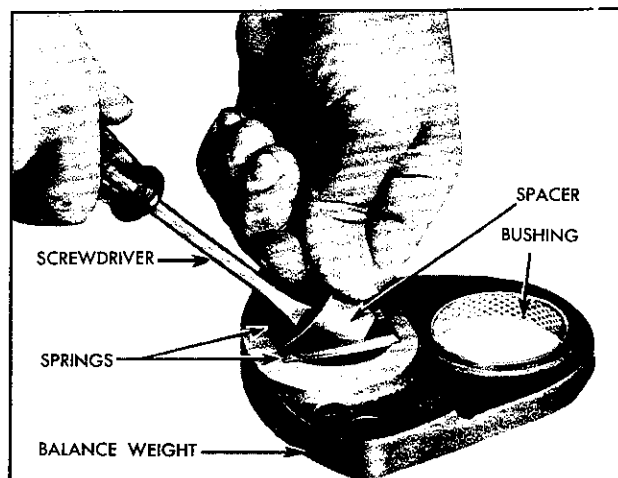

Fig. 7—Installing Spring Spacer in Spring Packs—Six Cylinder.
6. Place spacer on blade of screwdriver. Enter spring spacer, tapered end first, between spring packs. As spacer becomes fully enclosed, tilt spacer into upright position, bolt hole up. Press spacer into place against work bench. (See Fig. 7.)